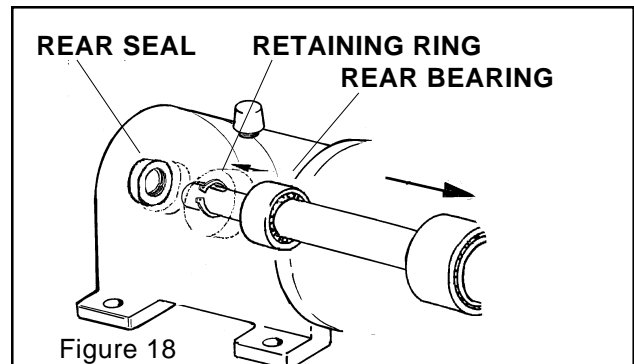

Figure 18
Rear Seal Replacement (Figure 18)
1. Remove rear seal. Remove rear bearing retaining ring. Press drive shaft through front of gear case (through rear bearing). (Figure 18)
3. Press the rear bearing out of the front of gear case. (Figure 18)
5. Lubricate outer races and press shaft assembly into case. Replace retaining ring and rear seal. (Figure 18)